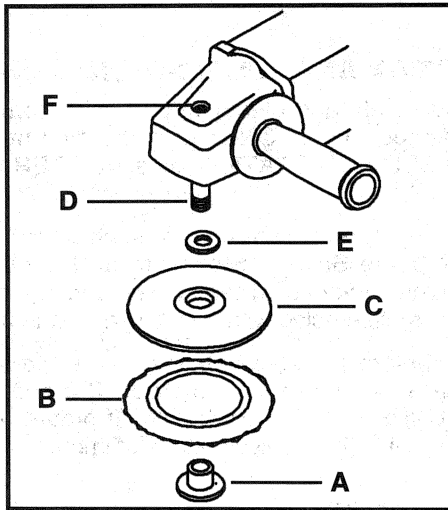

Fig. 4
2. Place washer "E" (see Fig. 4), onto spindle "D".
3. Depress spindle lock pin "F" (see Fig. 4), and place backup pad "C", onto spindle "D".
4. Place retaining nut "A" (see Fig. 4), through hole in a lamb's wool polishing pad "B" (available at most dealers), and rotate clockwise onto spindle until it seats. Normal operation of the polisher will tighten the polishing pad.
Depress spindle lock pin "F" (see Fig. 4), and hold. Grasp edge of polishing pad and backup disc firmly, rotate counterclockwise to remove.